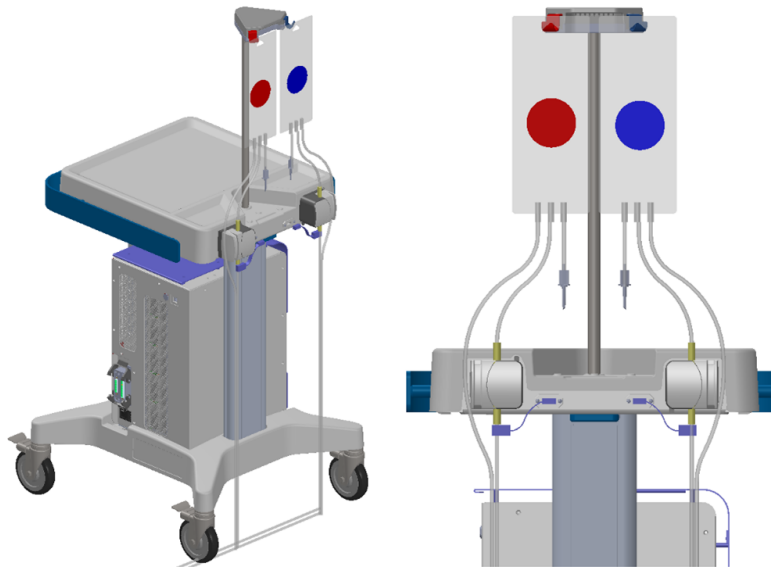

Figure 3: Preparing the system cart and fluid tube sets
- a. For each tube set, hang the reservoir bag on the corresponding color-coded weight sensor hook on the System Cart (*Figure 3*).